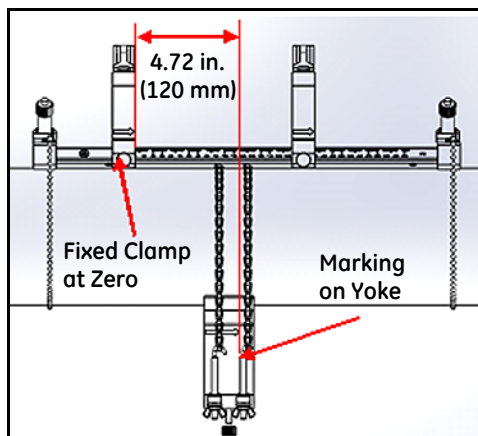

Figure 30: Yoke Set at 120 mm/4.72 in.
- **Spacing <305 mm** (120 mm/4.72 in. is used as an example): Measure the required 120 mm/4.72 in. distance from the edge of the fixed clamp to the marked line on the yoke (see *Figure 30* below).